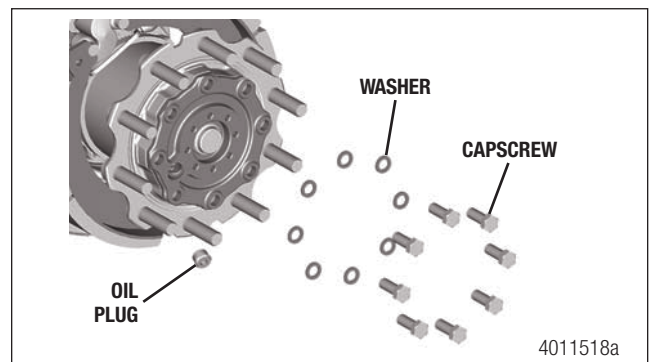

Figure 5.7
5. Remove the capscrews and washers that connect the drive flange to the wheel hub. Figure 5.7.